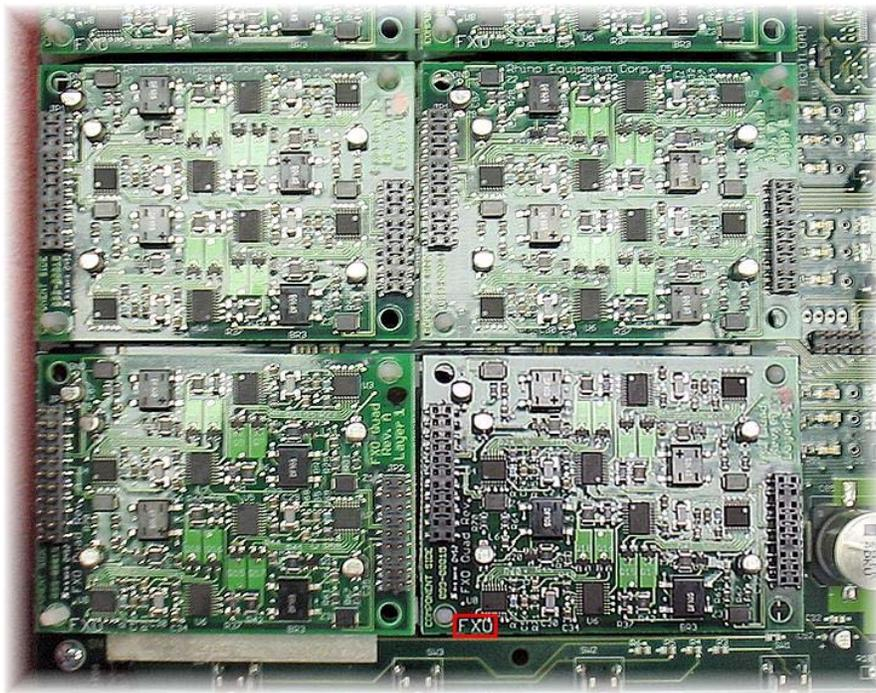

Figure 5
**3** The modular cards connectors are keyed so that the card may only be installed one way. The card must be installed with the larger connector on the left side and the smaller connector on the right side. Make sure the FXO or FXS marking is displayed in the bottom left corner of the card. (Refer to figure 5)